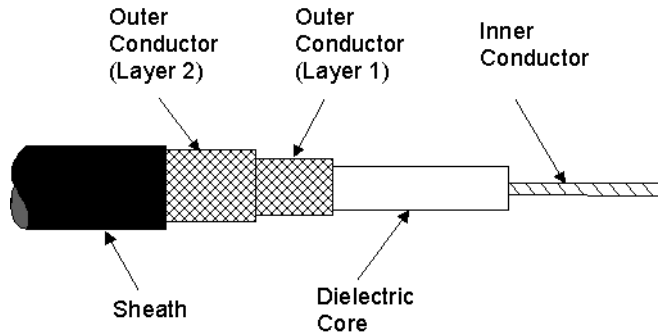

Figure 1. Flexbus cable
- Figure 1. Flexbus cable **16**
Table 2 and Figure 1 identify the diameter of the cable attributes. The 'D' and 'E' min-max ranges allow for the different connectors used.